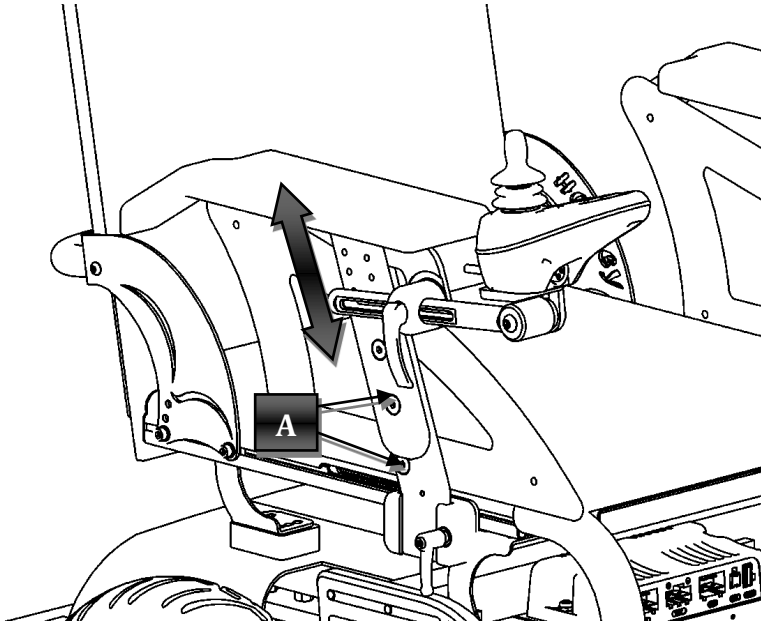

Figure 7
Seeing Figure 7 loosen the screws (A), and set armrests height to desired value and retighten the screws (A).